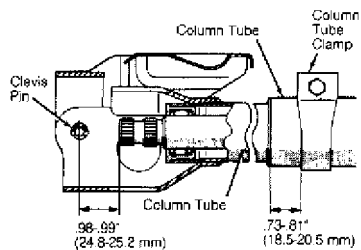

Fig. 6: Installing Column Tube Clamp (Eclipse & Galant)
3) Install tube clamp so edge of clamp is positioned .73-.81" (18.5-20.5 mm) from end of upper column tube, and end of steering shaft is .98-.99" (24.8-25.2 mm) from center of the clevis pin. See Fig. 6.